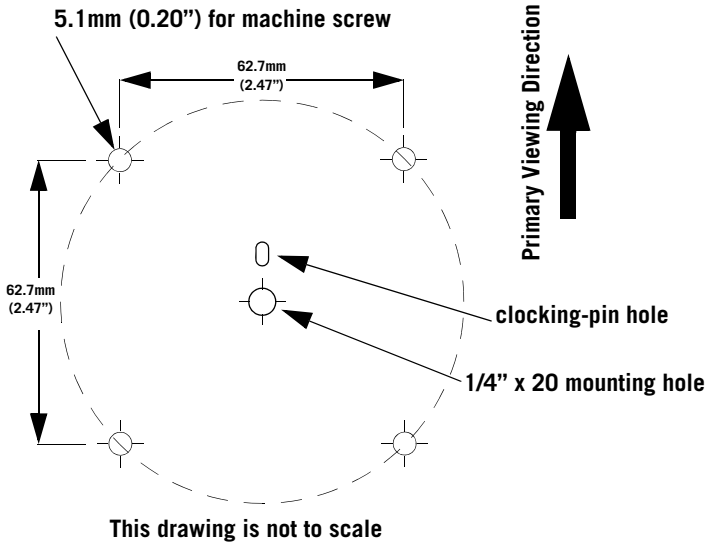

Figure 3-4: Base Mounting Template for the Camera
- Step 1 Drill the screw mounting holes per the installation template provided in paragraph 7.1 “Camera Mounting Template.” on page 25. A sketch is shown below in Figure 3-4.